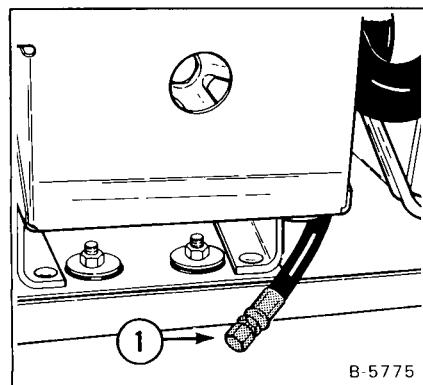
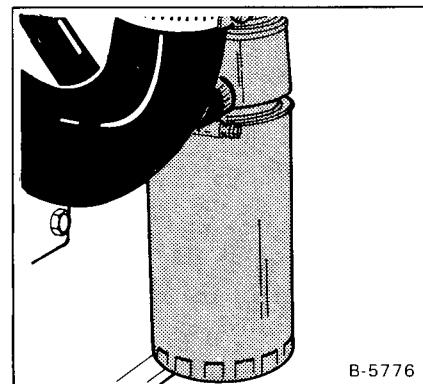

Fig. 1-19 Engine Oil Drain
Fig. 1-20 Engine Oil Filter
- (1) Run the engine until it is at operating temperature. Stop the engine and open the rear door.
- (2) Remove the drain plug at the end of the hose (Fig. 1-19, Item 1).
- (3) Remove the oil filter (Fig. 1-20).
- (4) Clean the filter housing surface. Put grease on the gasket of the new filter element. Install the filter element and hand tighten only.
- (5) Install the drain plug (Fig. 1-19).